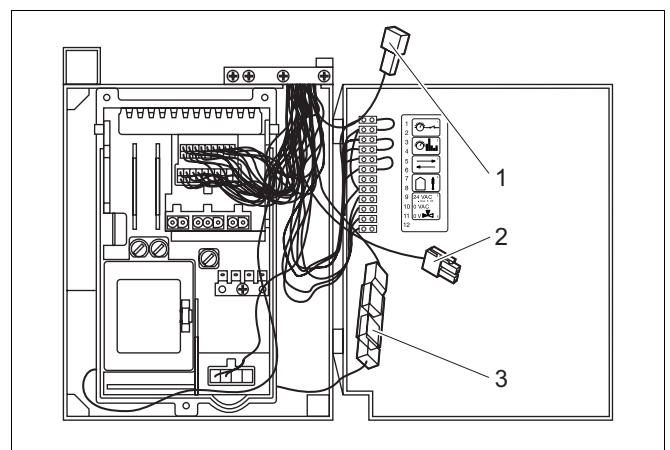

Fig. 61 Connections for the second solenoid valve, modulating pump and external switching contact
- Check connections of second solenoid valve (fig. 61, item 1), modulating pump (fig. 61, item 2) and floor thermostat switching contact (fig. 61, item 3).